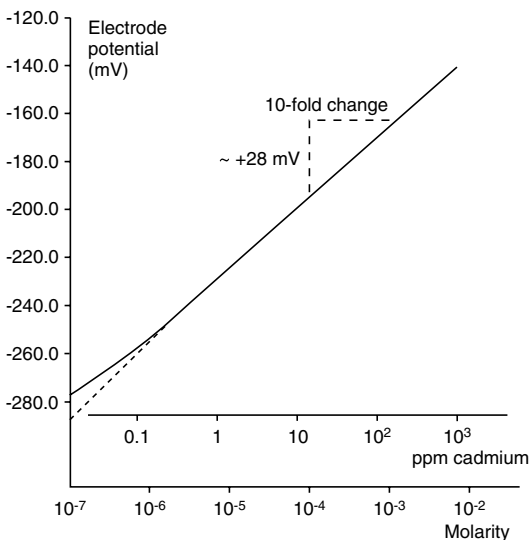

Figure 2: Typical Cadmium Calibration Curve
8. Using semi-logarithmic graph paper, prepare a calibration curve by plotting the millivolt values on the linear axis and the standard concentration values on the logarithmic axis. See **Figure 2**.
These procedures are for solutions with a cadmium concentration of less than 1.13 ppm or 10^{-5} M Cd^{2+} , those within the non-linear range of the cadmium electrode. See **Figure 2**. In low-level measurements, at least three standards are required for calibration to compensate for the electrode's non-linearity.
3. Add increments of the 10 ppm or 10^{-4} M standard to the beaker using steps outlined in **Table 2**. Record stable millivolt reading after each increment. On semi-logarithmic paper, plot the concentration (log axis) against the millivolt potential (linear axis). See **Figure 2**. Prepare a new calibration curve with fresh standards each day.